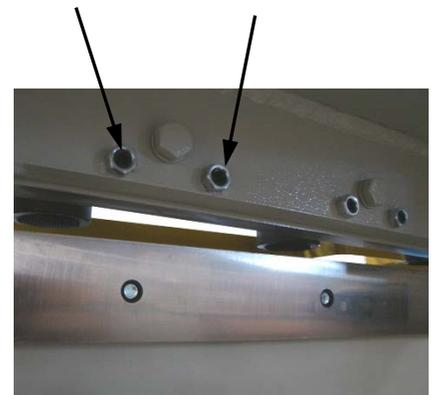

figure 6
11. The blade gap adjustment setscrews are shown in (fig. 6). These were preset at the factory. **ADJUST ONLY IF ABSOLUTELY NECESSARY!**